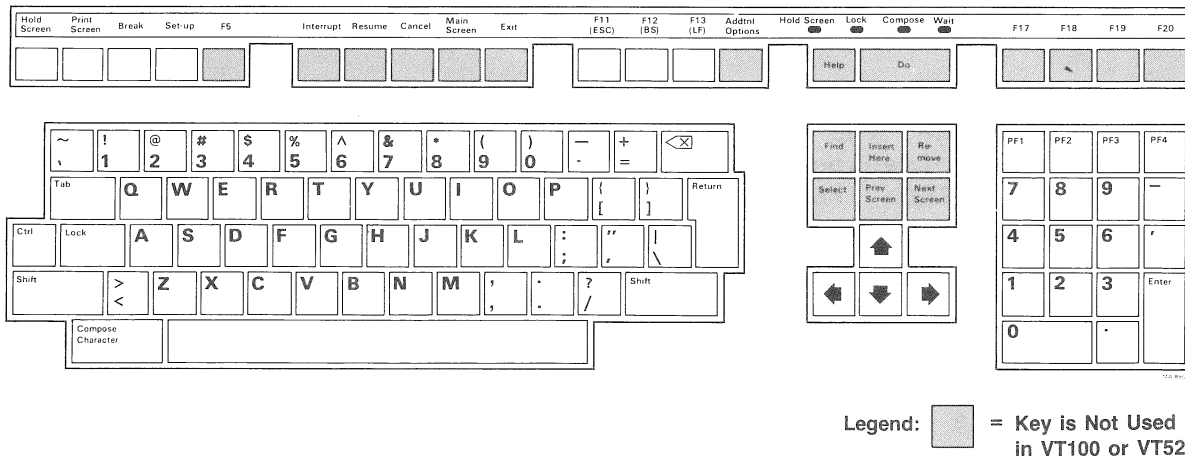

Figure 2-2: Keys Used in VT100 and VT52 Modes
2.1.2.1 VT100 Mode - For compatibility with VT100 series terminals, VT100 mode allows only a subset of the keys available on the Professional keyboard to transmit codes to the host. (See Figure 2-2.) VT100 mode does not allow the following Professional keys and key combinations to transmit codes to the communications line.
- <F11 (ESC)>, <F12 (BS)>, and <F13 (LF)>
In VT52 mode, you can use the same keys as in VT100 mode (see Figure 2-2).